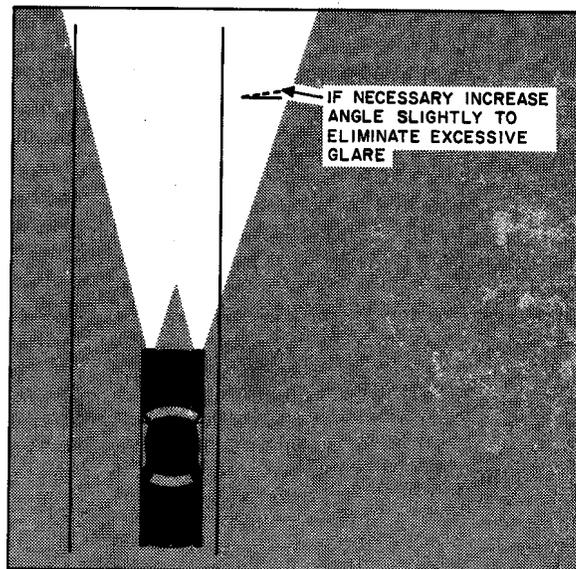

Fig. 16—Locating Sign to Reduce Glare
3.05 When excessive glare from the face of the signs affects its legibility, turn sign slightly away from road as illustrated in Fig. 16.